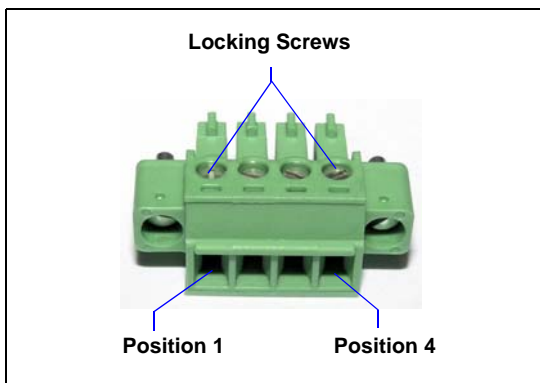

Figure C-3. 4-Position Relay TTL Connector Plug
1. Locate the twisted pair of wires (P/N 043598) and 4-position connector plug (P/N 923852) (see Figure C-3) in the Dionex AS-DV Ship Kit (for 0.5 mL vials, P/N AAA-071115; for 5.0 mL vials, P/N 068887).